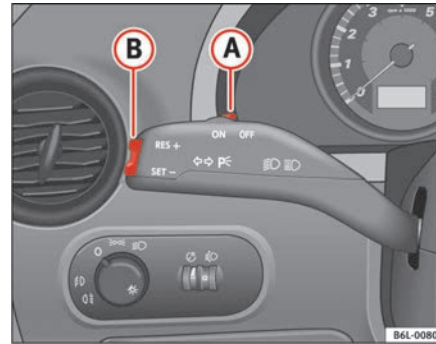

Fig. 107 Turn signal and main beam headlight lever switch and rocker switch for the cruise control
- Press the lower part **SET** of the rocker switch ⇒ fig. 107 (B) once briefly when you have reached the speed you wish to set.